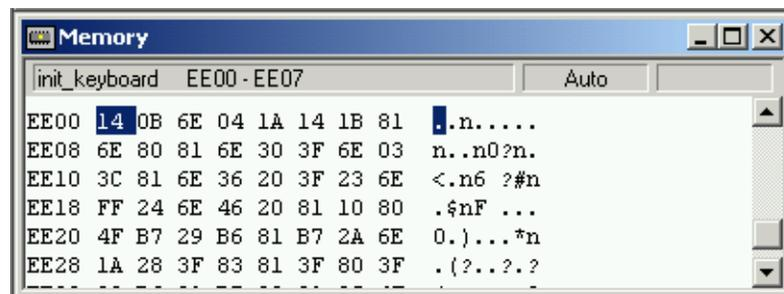

Figure 18. Verify New Code in FLASH
19. Type in address EE00 and click OK. The new memory contents are shown (Figure 18). (Contents will be FF if not programmed.)